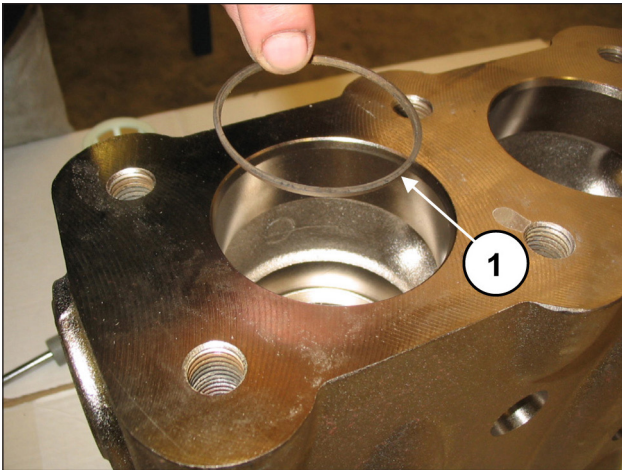

Fig. 111
Insert the anti-extrusion ring, exploded view pos. 5 (pos. ①, Fig. 111).